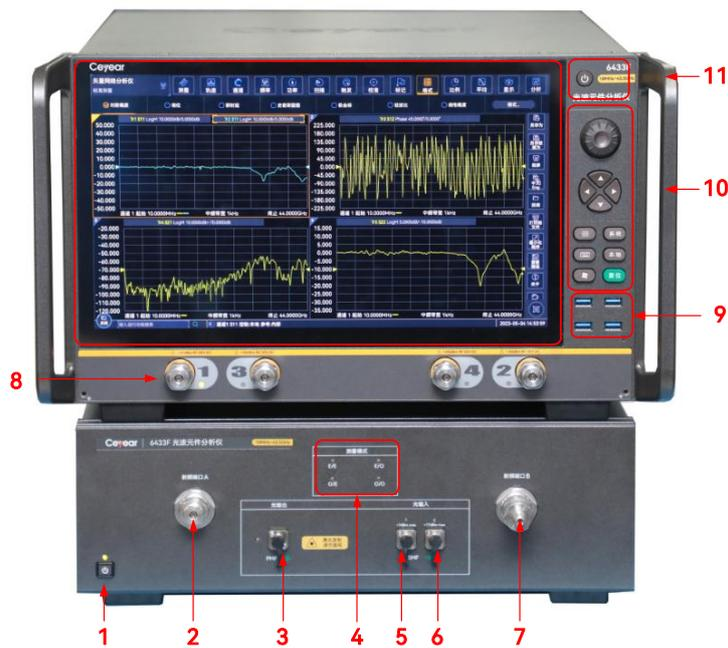

Fig. 3.1 Schematic diagram of front panel of 6433
Step 1 Power cable connection: Connect one end of the power cable or three-core power cable matching the lightwave component analyzer in the packing box to the power socket on the rear panel of the lightwave component analyzer, as shown in Figure 3.1. Mark the voltage parameters required by the lightwave component analyzer next to the power socket to remind the user that the voltage used should meet the requirements. The other end of the power cable is connected to the AC power supply that meets the requirements.
This section describes the composition and functions of the front panel of the 6433 series optical lightwave component analyzer. The front panel is shown in Fig. 3.1.